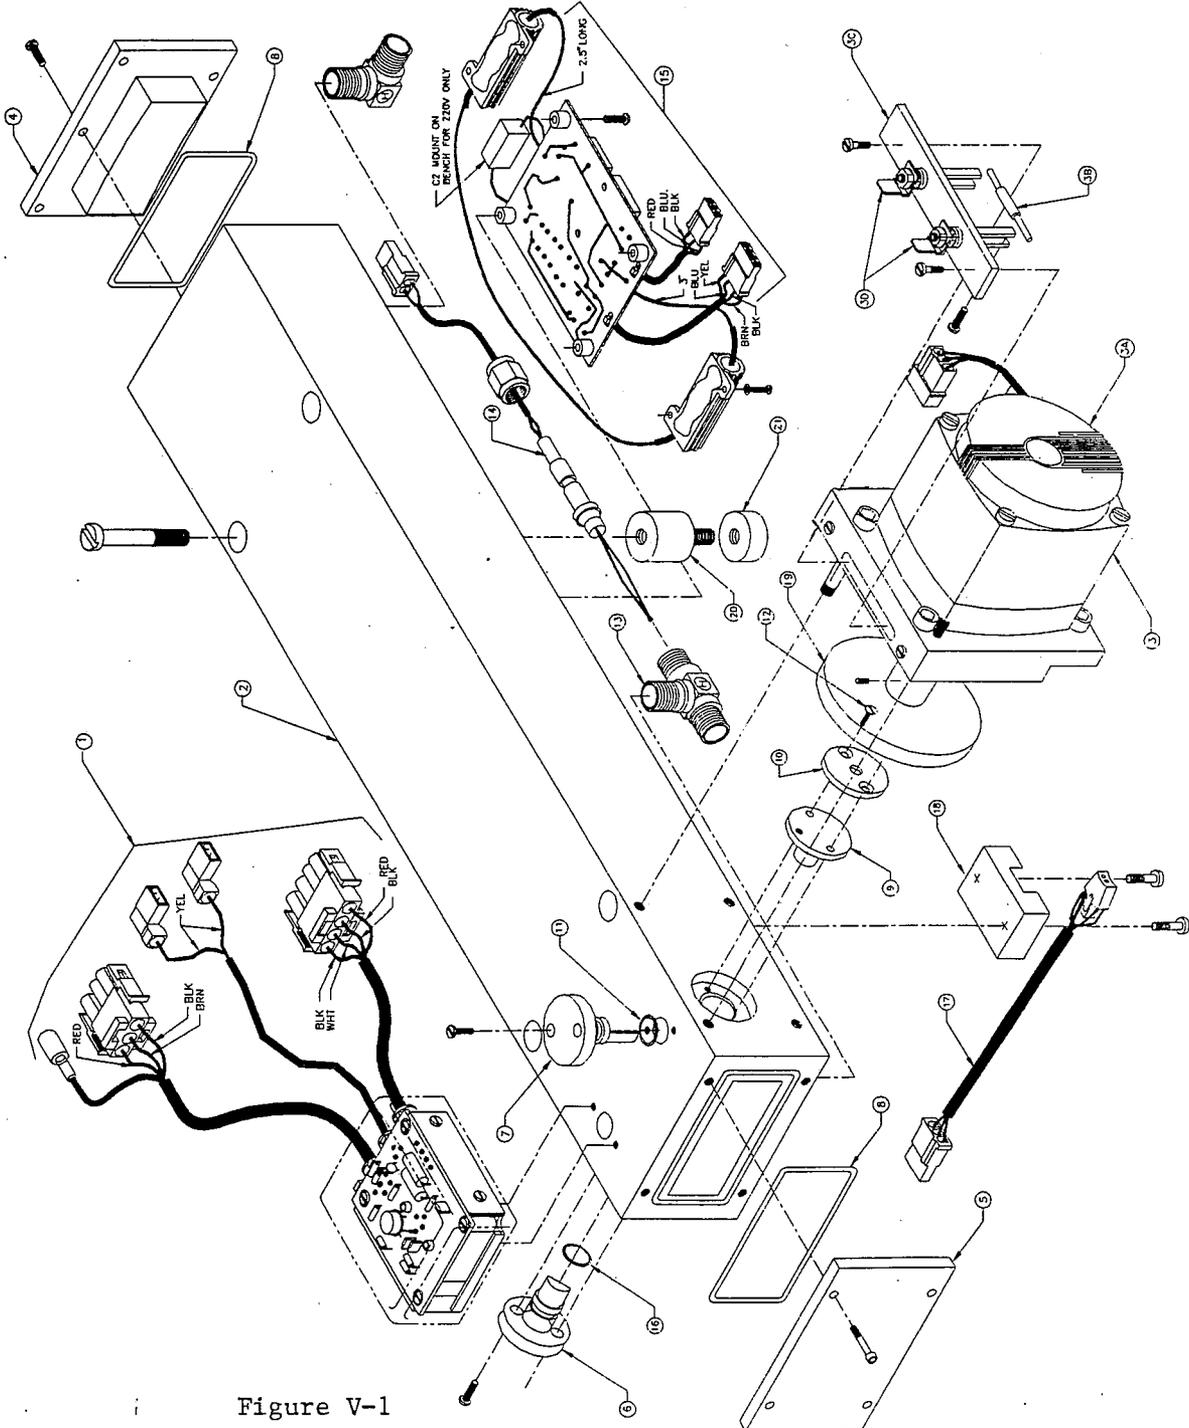

Figure V-1
2. Remove field mirror (Figure V-1), (the field mirror is the rear mirror), by removing the four Allen head screws holding it to the main bench (use a 9/64 Allen wrench). Remove the relay mirror (Figure V-1), (the relay mirror is the front mirror, accessible through the front door), by removing the three Allen head screws holding it to the main bench (use a 9/64 Allen wrench).